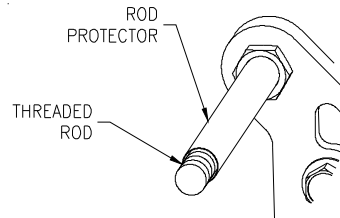

Fig. 12
12. Slide plastic rod protectors onto rods. See Fig. 12